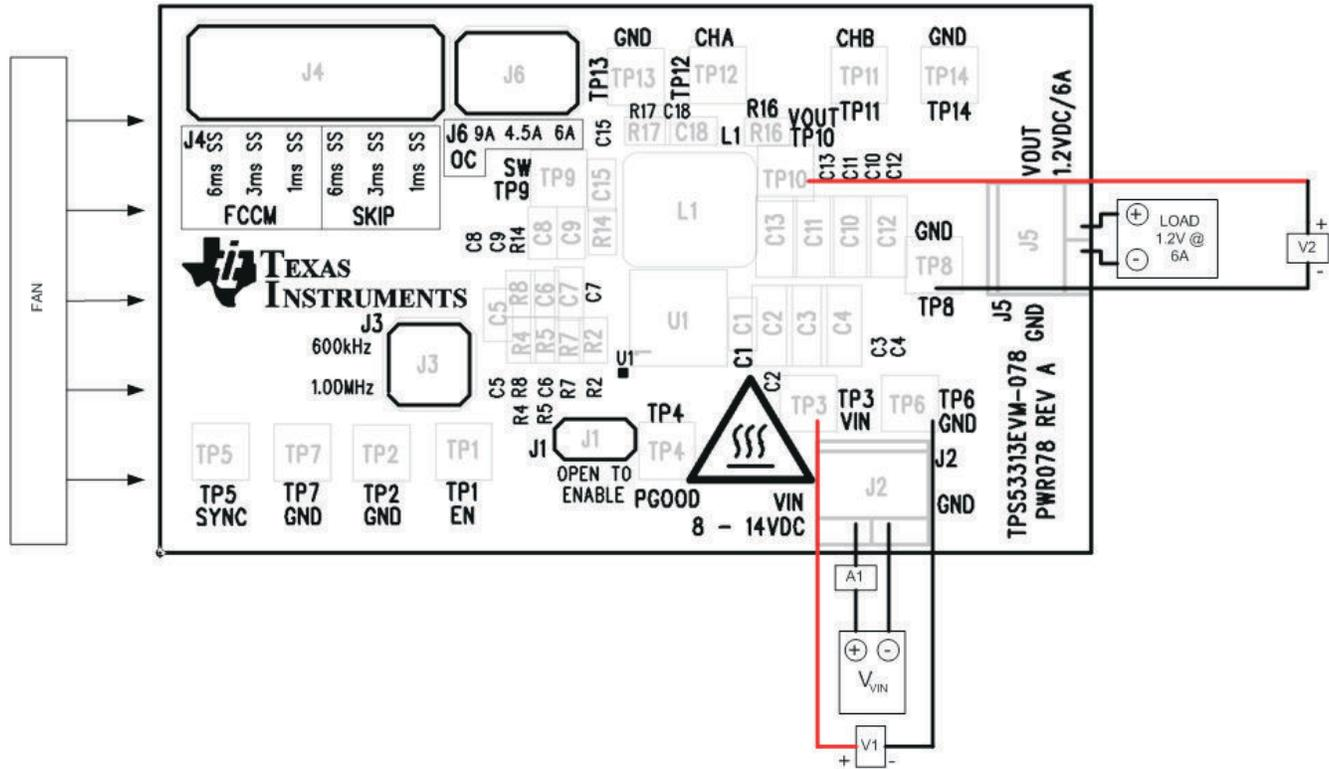

Figure 5-2. TPS53313EVM-078 Recommended Test Set Up
**Voltage Source (VIN):** The input voltage source, (VIN), should be a 0-V to 15-V variable DC source capable of supplying 2 ADC. Connect VIN to J2 as shown in Figure 5-2.
Figure 5-2 is the recommended test set up to evaluate the TPS53313EVM-078. Working at an ESD workstation, make sure that any wrist straps, bootstraps or mats are connected referencing the user to earth ground before power is applied to the EVM.
- Prior to connecting the DC input source (VIN), it is advisable to limit the source current from VIN to 2 A maximum. Make sure VIN is initially set to 0 V and connected to J2 as shown in Figure 5-2.
- Place a fan as shown in Figure 5-2 and turn on, making sure air is flowing across the EVM.
1. Set up EVM as described in Section 5 and Figure 5-2.